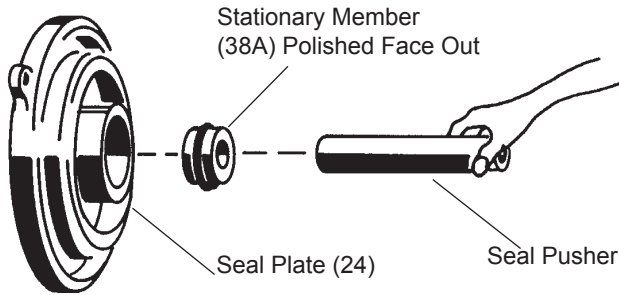

FIGURE 6
Seal - Clean and oil seal cavity in seal plate (24). Press stationary member (38a) firmly into seal plate (24), using a seal pusher, nothing but the seal pusher is to come in contact with seal face (See Figure 6). Make sure the stationary member is in straight.